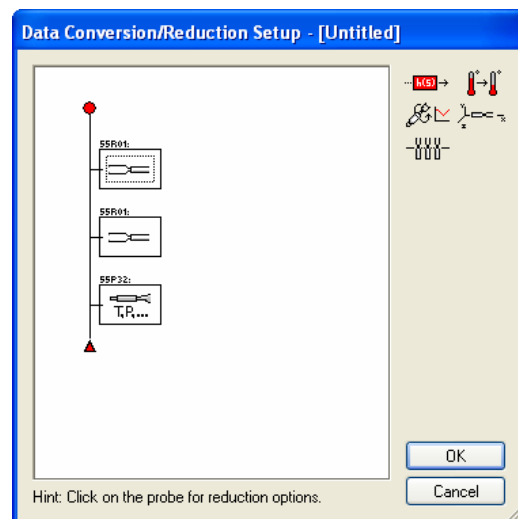

Figure 18: Custom data conversion/reduction setup window
1. Select "Setup/Define Reduction and Conversion". "The Data Conversion/Reduction Setup" window, shown in Figure 18, opens.